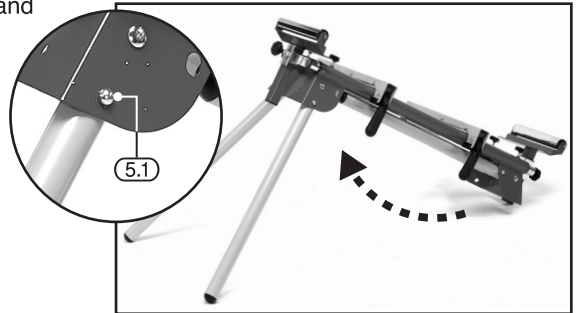

FIG.21
- Loosen the locking knobs (2), slide the roller bars up and down to the desired location.
9.2 STORAGE – FIGS.21 – 24